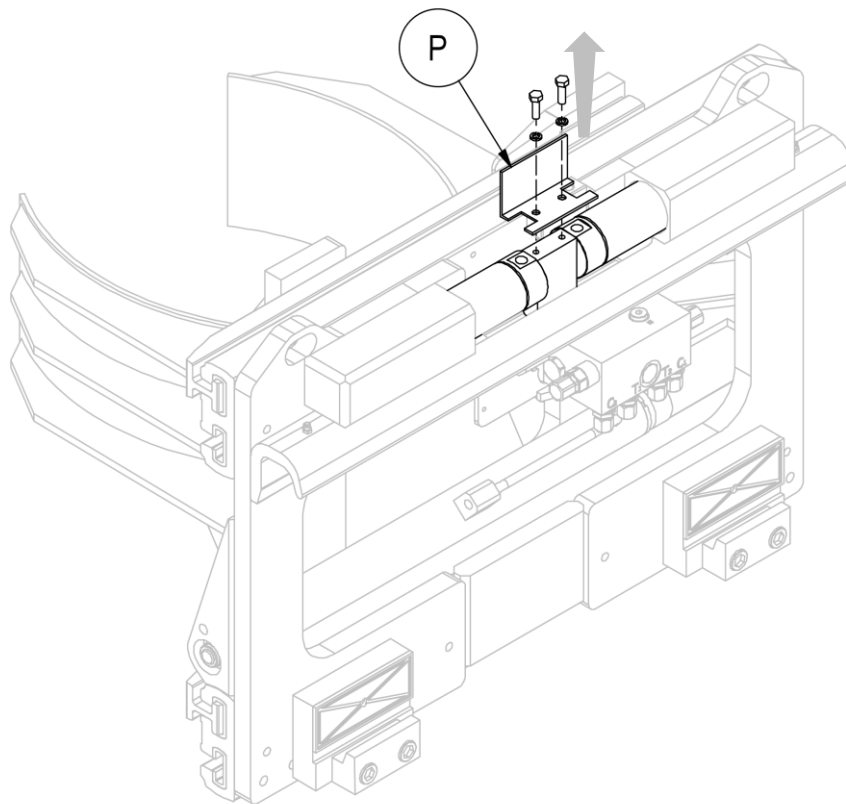
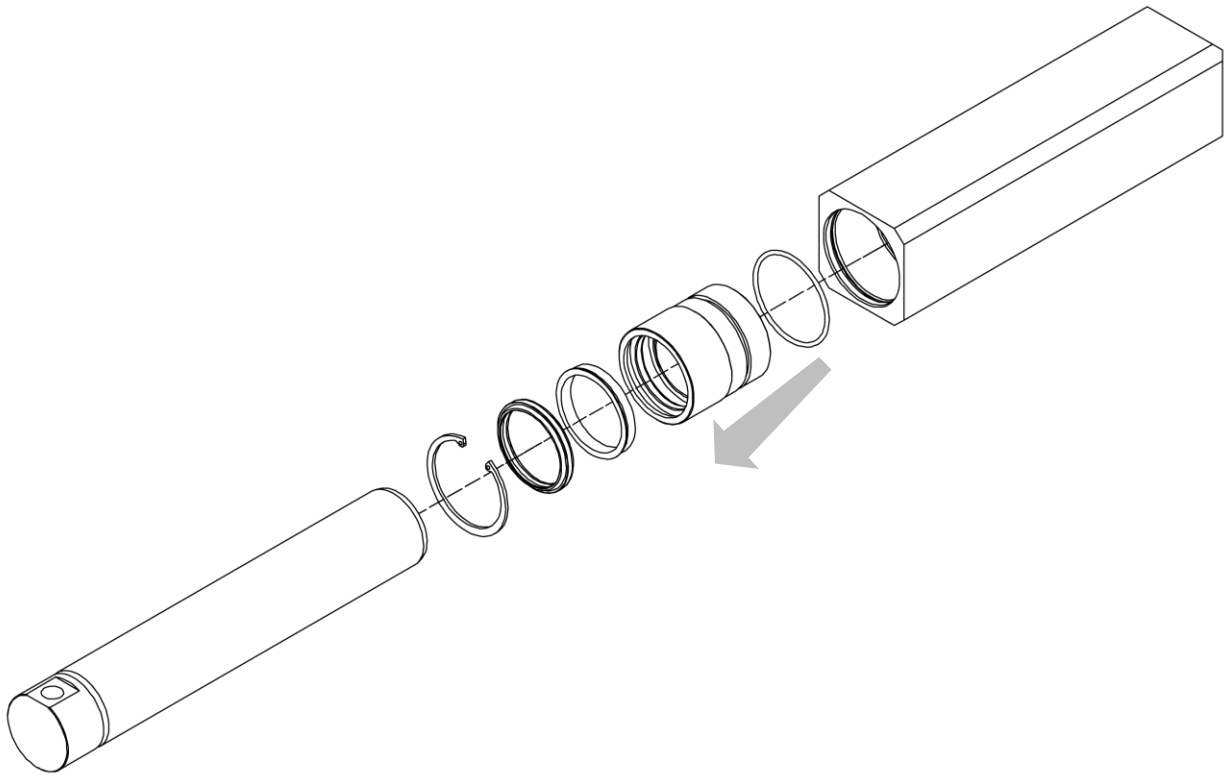

Figure 50
Figure 51
3. Remove dual coupling after removing the protection bracket (P) with its associated bolts, (in *Removing the Equipment from the Forklift Truck* this step has already been outlined).
7. Use *Figure 50* and *Figure 51* as guides.